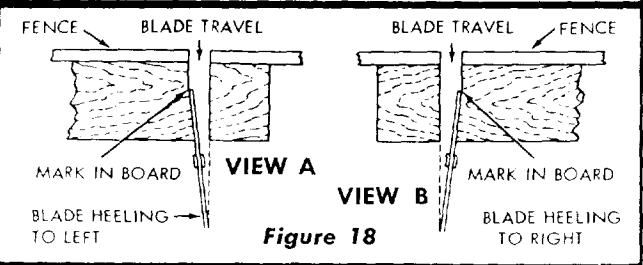

Figure 18
4. If a gap exists between the saw blade and the square, one of two types of heel exists. The two types of heel are illustrated in views "A" and "B", figure 18. To correct for either type of heel condition, proceed as follows: